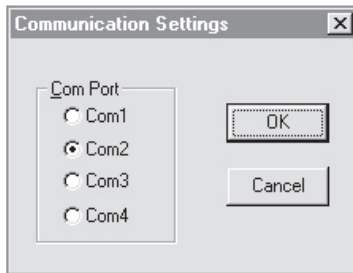

Figure 1
- 1 Select "Settings" to open the Communications Settings (Figure 1).